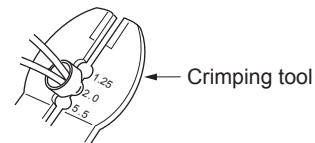

Fig.6
- d) As shown in Fig.6, use the crimping tool to crimp the metal sleeve at the center position. Be sure to crimp fully to the complete closure of the tool.